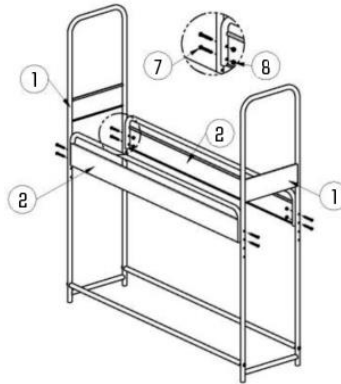

Figure 2
2. Two upper horizontal frames (2) are fixed on both side frames (1) with M8*60 round head hexagon bolts (7) and M8 self-locking nuts (8) (Figure 2).